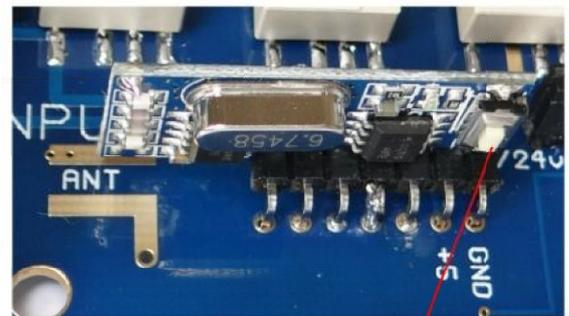

Figure 1
3. Hold down the pairing button on the RF Module for 3 seconds (refer to figure 1).
- 6: Hold down the pairing button on the RF Module for 3 seconds (refer to figure 1).